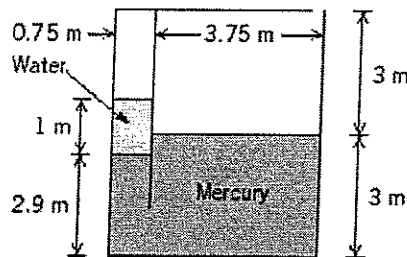

Fig. Q2
2. A partitioned tank as shown in Fig. Q2 contains water and mercury. What is the gage pressure in the air trapped in the left chamber? What pressure would the air on the left need to be pumped to in order to bring the water and mercury free surfaces level? Take specific gravity of mercury as 13.6. [9 M]